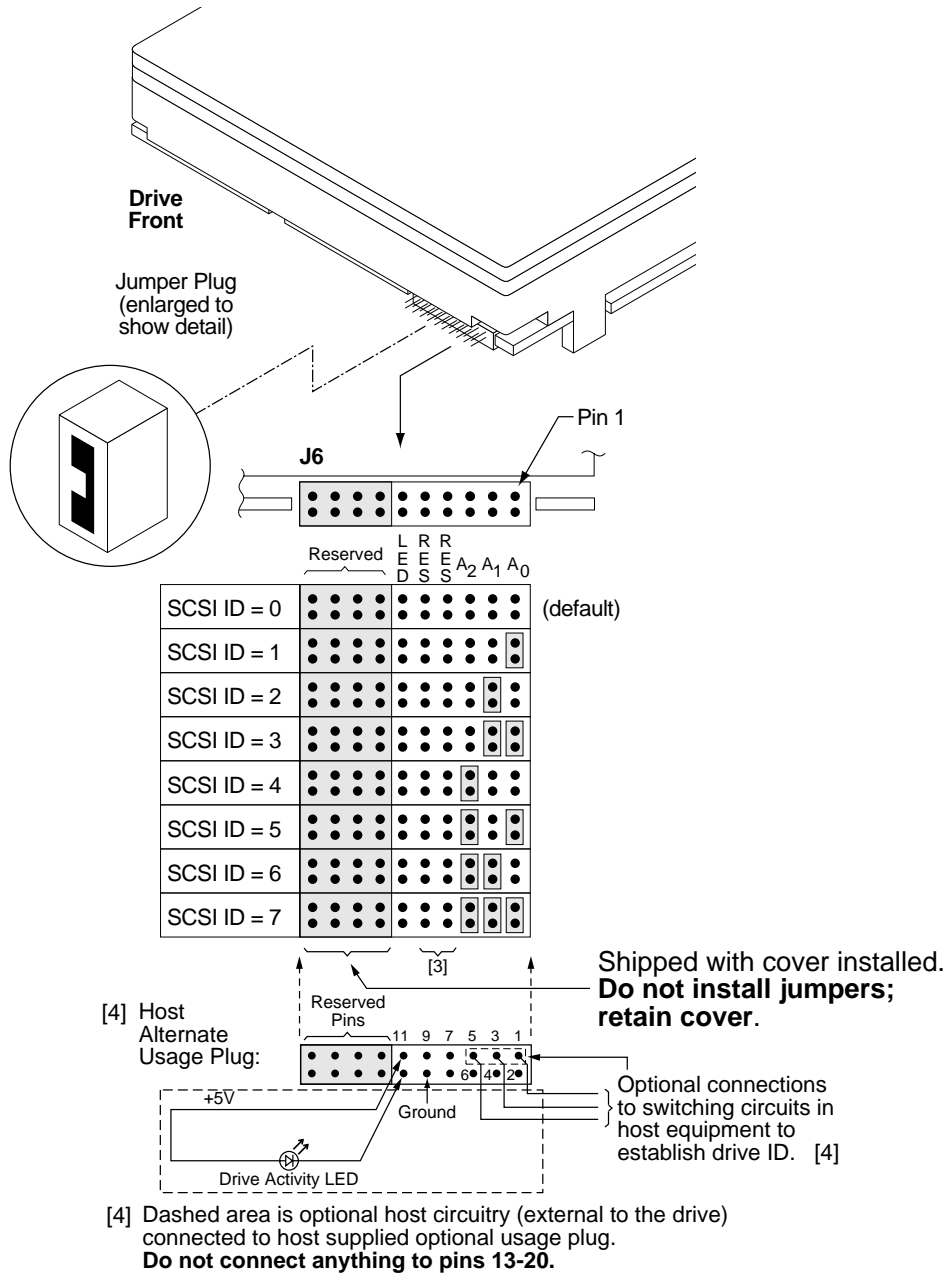
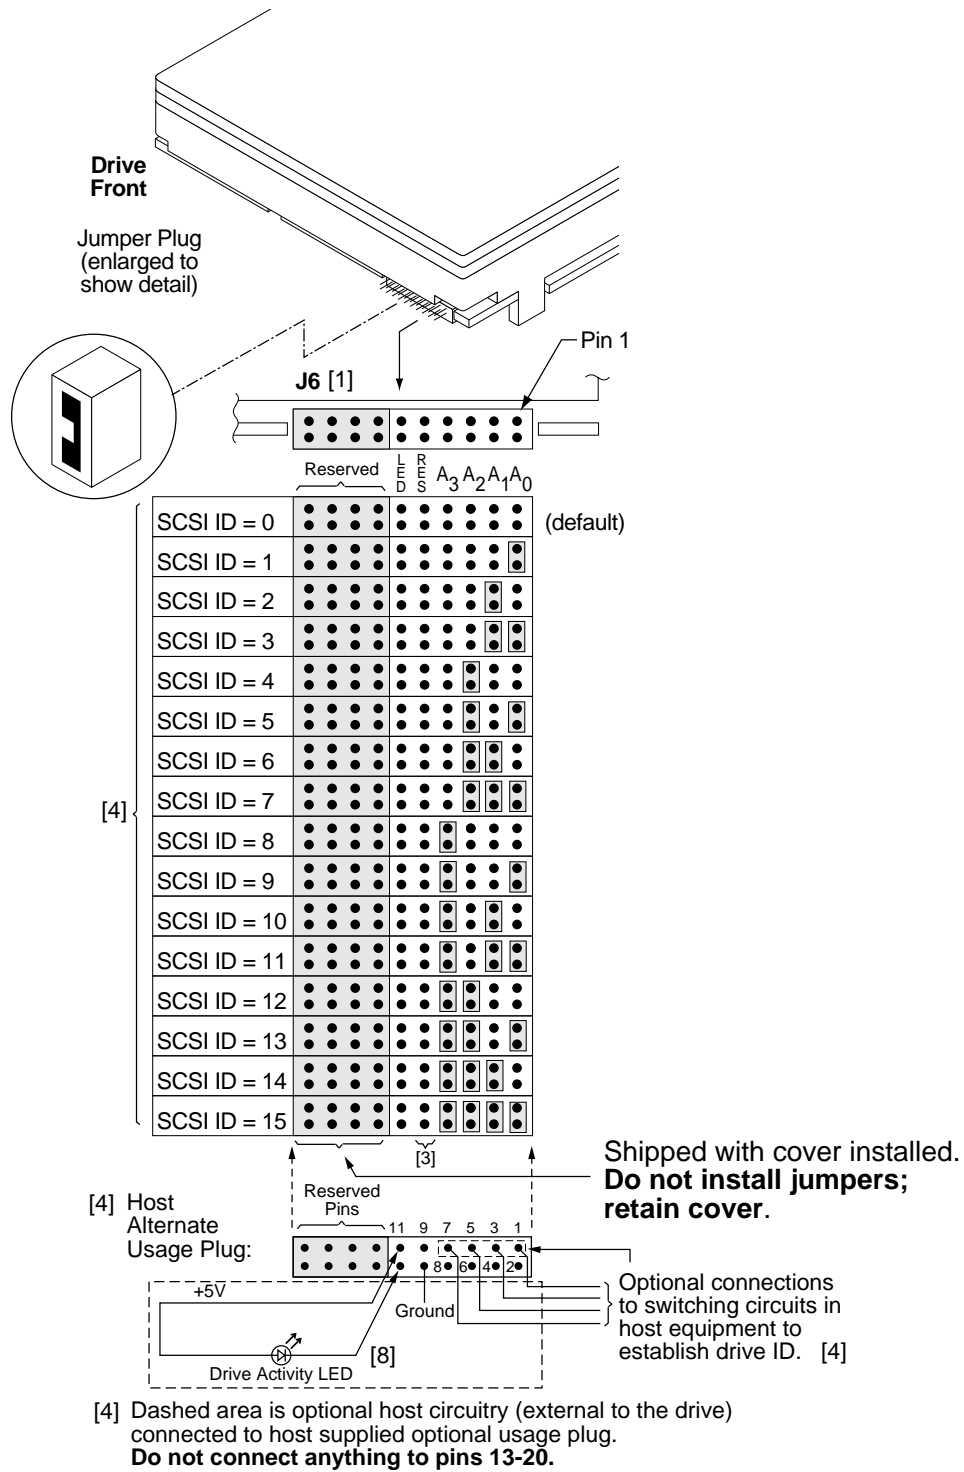
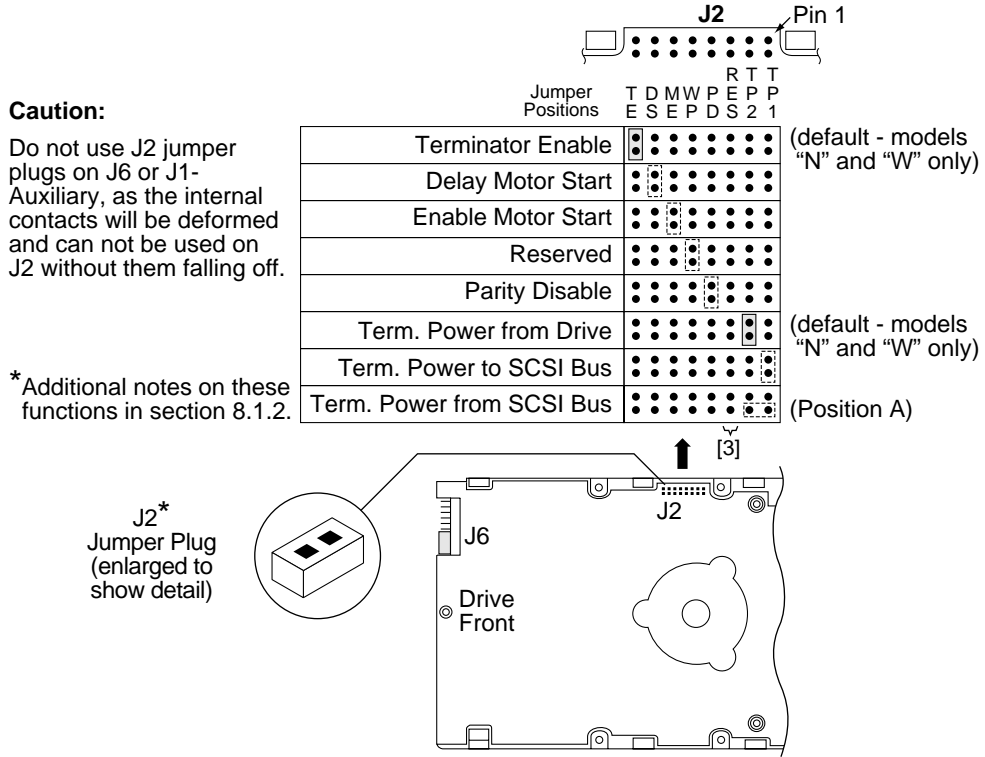

Figure 9. Medalist Pro family drive ID select header for "N" models
Figure 10. Medalist Pro family drive ID select for "W," "WC," "LW," and "LC" models
Figure 12. Medalist Pro family drive option select header for "N" and "W" models
For option jumper locations and definitions refer to Figures 9, 10, 11, 12, 13, and 14. Drive default mode parameters are not normally needed for installation. Refer to Section 9.3.2 for default mode parameters if they are needed.
Figures 9 through 11 show views of the drive ID select jumper connectors. Figure 12 shows the option select jumper connector for all models. Figure 10 shows a rear view of model drives for the purpose of showing J1-auxiliary of the drive. Both J1-auxiliary and J6 have pins for selecting drive ID and for connecting the remote LED cable. Only one or the other should be used, although using both at the same time would not damage the drive. The notes following the figures describe the functions of the various jumper positions on the connectors J2, J1-Auxiliary and J6. See your local drive sales representative for suggested part number. A bag containing jumper plugs is shipped with standard OEM drives.
Notes for Figures 9 through 14 are in Section 8.1.1.
8.1.1 Notes for Figures 9, 10, 11, 12, 13, and 14.
*See Figure 12 for pins used for Termpower.